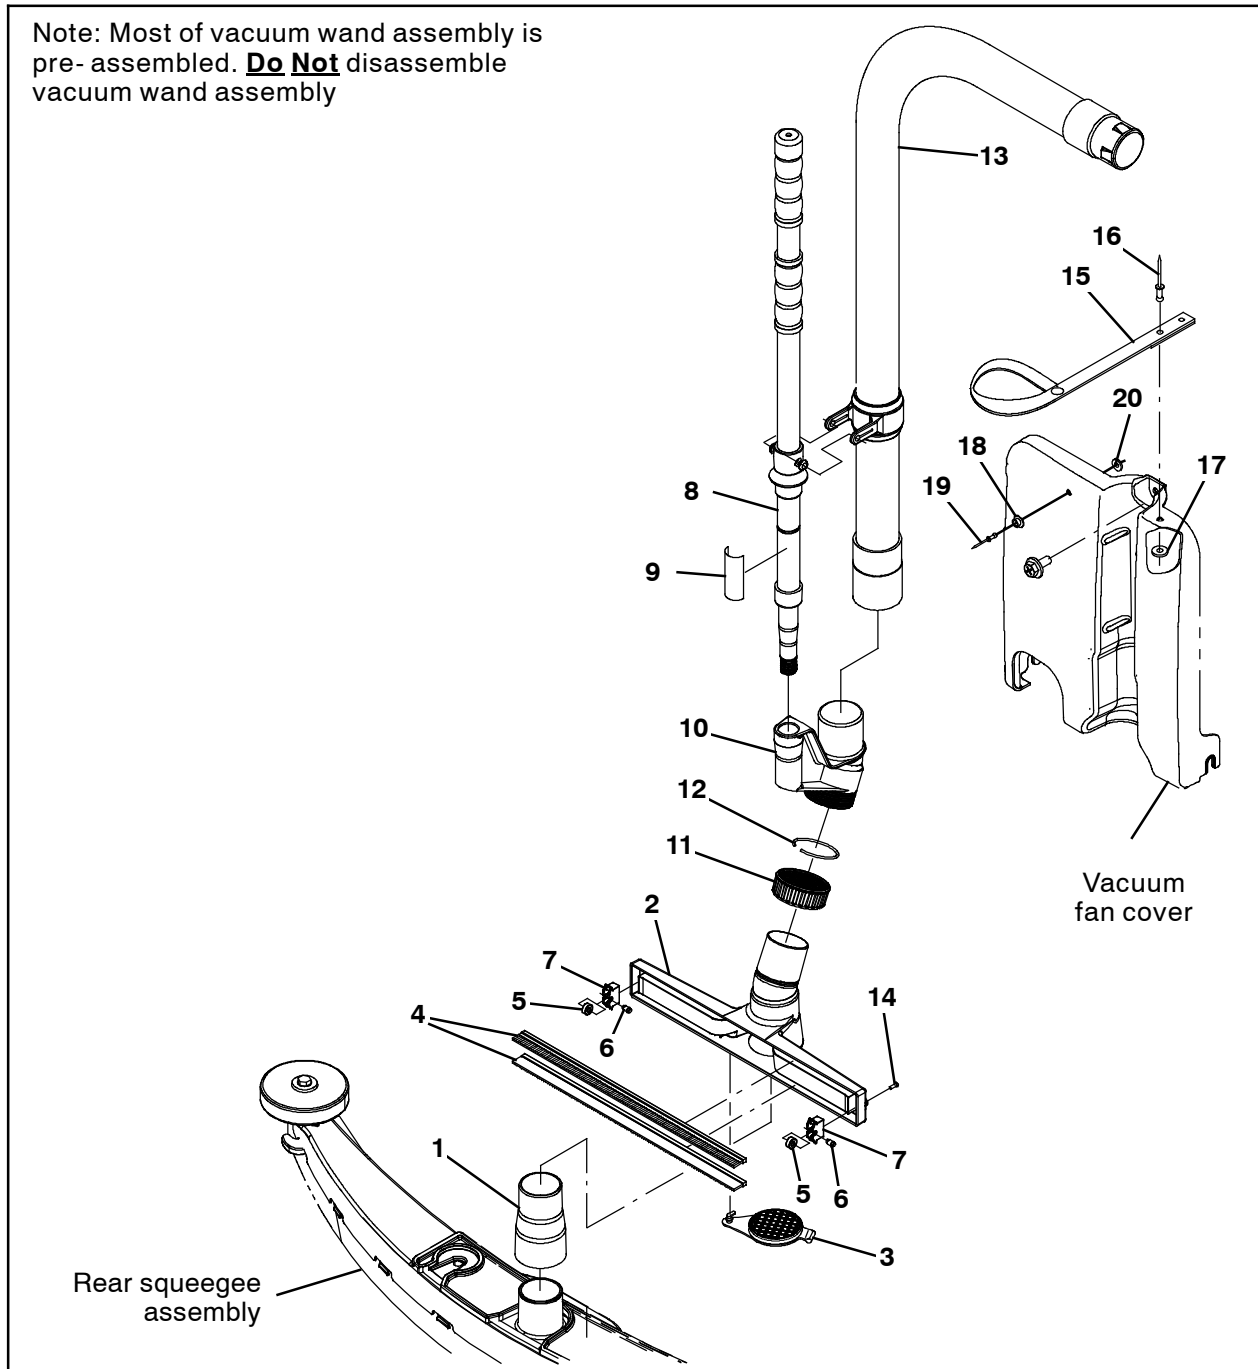
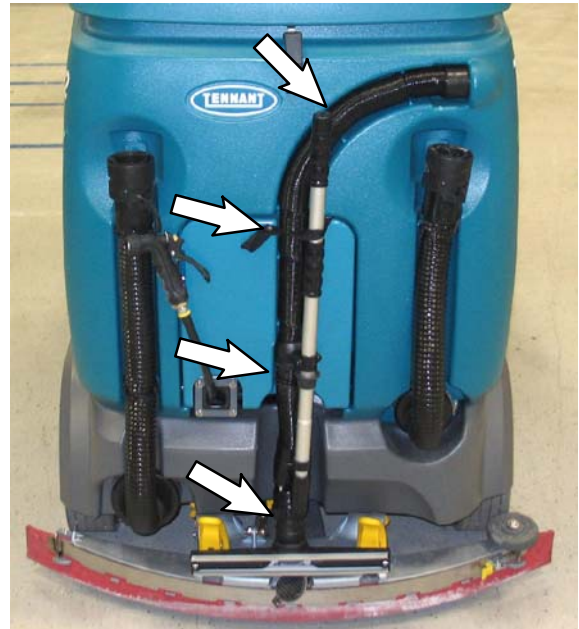

FIG. 3
FIG. 4
4. Use a rivet (16) and flat washer (17) to install the retainer strap (15) onto the vacuum fan cover. (Fig. 3)
5. Use a rivet (19) and a flat washer (20) to install the snap (18) onto the vacuum fan cover. (Fig. 3)
6. Reinstall the vacuum fan cover onto the recovery tank. (Fig. 3)
7. Install the adapter cuff (1) onto the rear squeegee assembly. (Fig. 3)
8. Install the vacuum wand handle (8) onto the swivel adapter (10). (Fig. 3)
9. Install the vacuum wand hose (13) onto the vacuum wand handle (8) and swivel adapter (10). (Fig. 3)
10. Insert the loose end of the vacuum wand hose (13) into the recovery tank. (Fig. 3)
11. If necessary, move the port cover (3) from over the hole in the wand (2). (Fig. 3)
12. Install the vacuum wand assembly onto the adapter cuff (1) installed on the rear squeegee assembly and insert the vacuum hose into the vacuum hose recess in the recovery tank. (Fig. 3 / Fig. 4)
13. Snap the retainer strap (15) onto the vacuum fan cover (21) to secure the vacuum wand assembly to the machine. (Fig. 3 / Fig. 4)